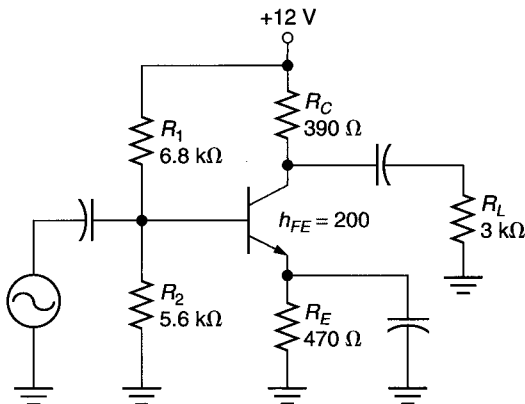

FIGURE 11.48
3. Calculate the compliance of the amplifier in Figure 11.48. Determine the type of clipping that the circuit would be most likely to experience.
13. Determine the values of  $P_S$ ,  $P_L$ , and efficiency for the amplifier in Figure 11.48. Assume that the circuit is driven to compliance.
39. Calculate the value of  $P_D$  for the transistor in Figure 11.48.